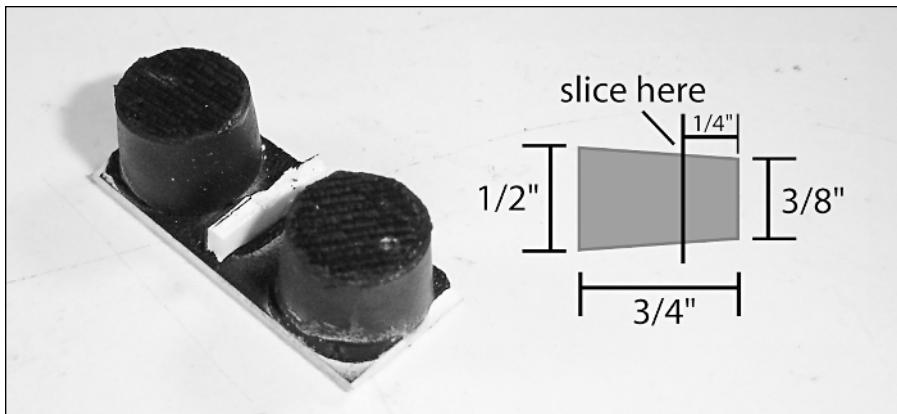

FIGURE 7-16: A rubber stopper to use for buttons.
2. Slice $1/4''$ off the small end of four stoppers to create a small button. Keep the $1/4''$ part. Attach a sliced stopper to each side of the plastic rectangle with superglue as seen in Figure 7-16. If you're feeling really adventurous, you can try carving small “+” and “-” marks on the ends of the buttons. A silver ink pen will also do the trick, but might look cheesy.